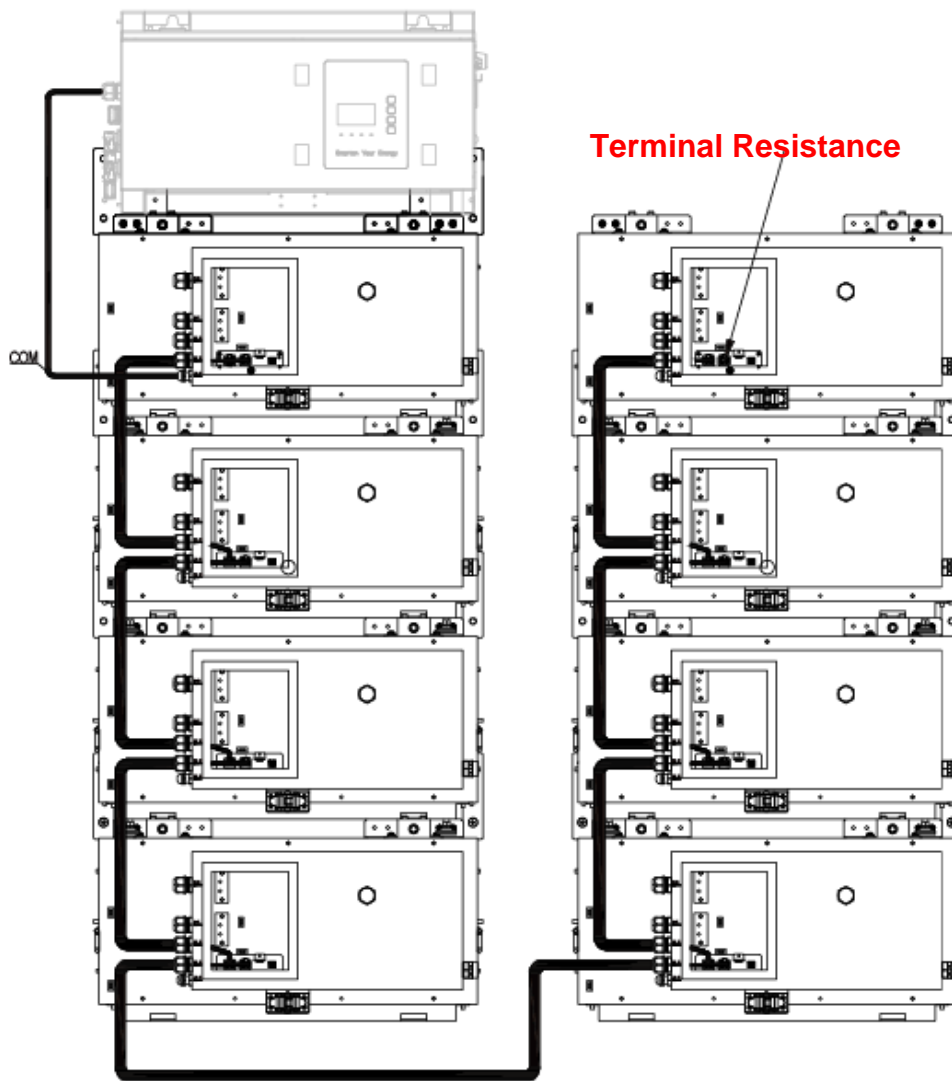

Figure 24 Connection of Communication Cables on Battery Side
Step 15: Please connect the communication cables as referred in Figure 24.